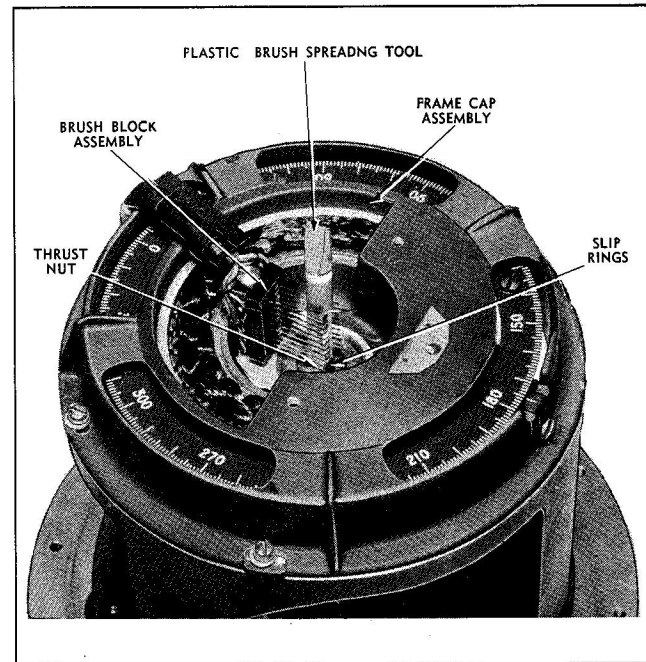

Figure 2-8 Plastic Brush-spreading Tool Placed for Removal of Brush Holder Assembly
(4) Rotate the tool so that the opening in its side is positioned toward the slip rings, thus spreading the brushes. Slide the tool toward the slip rings, inserting the slip rings into the tool. Be careful that the lowest set of brushes do not slip off the lower end of the tool as it is moved toward the slip rings. When the slip rings are fully inserted in the tool, lower the tool slightly until it seats against the thrust nut on the frame cap. (See figure 2-8).
(5) Leaving the tool in position, remove the long binding head screw and spring washer securing the brush block assembly to the frame